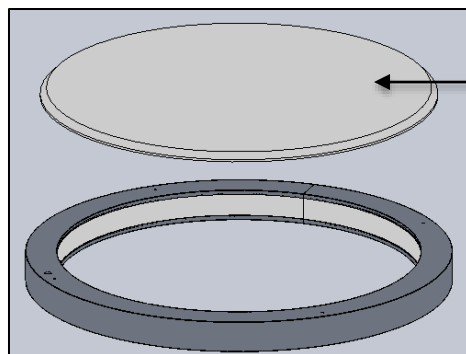

FIG. 19 - RV1 (INNER ILLUMINATION) (WITH ACOUSTIC PANEL SHOWN)
13. If there is option for Acoustic Panel, place the Acoustic part above the fixture body such that it is eventually balanced and assembly concentrically to the axis of fixture body as shown in FIG. 19 and 20 below for both RV1 and RV2 Series.